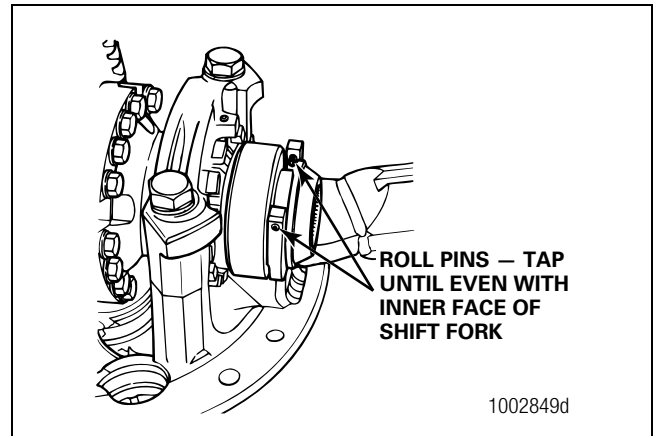

Figure 6.13
1. To remove the differential lock sliding shift collar, tap out the two retainer roll pins until they are level with the inner face of the shift fork. Figure 6.13.